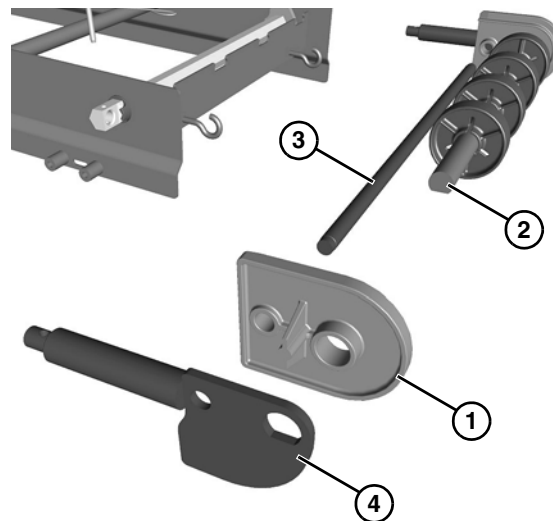

Figure 68
3. Install the tracking plate (Figure 68, item 1) to each side onto idler shaft (Figure 68, item 2) and pinch guard shaft (Figure 68, item 3).
4. Install the shaft assembly (Figure 68, item 4).